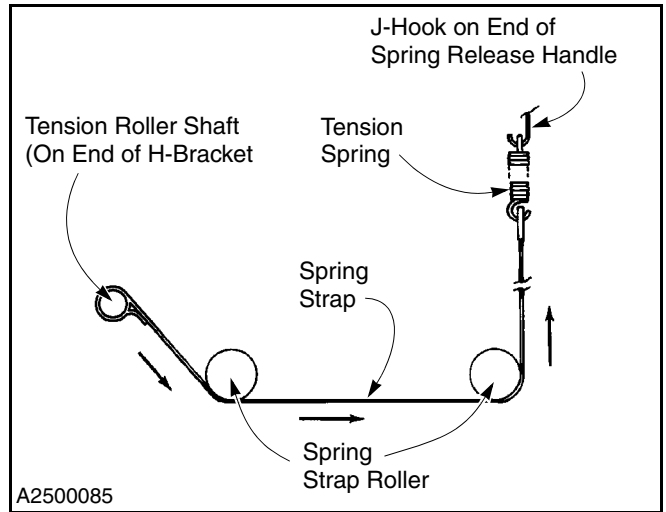

Figure 71
4. Remove the existing spring strap by unhooking one end from the spring release handle. Then release the other end from the tension roller shaft. (See Figure 71.)
5. Install the new spring strap in the reverse order the old strap was removed. Route the strap in the direction as shown in Figure 71.